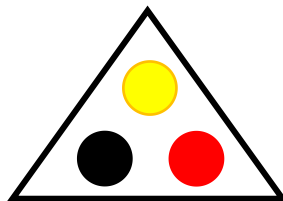

Figure 2-1.1 Ordering of arm connectors
- 3) Plug the male banana connectors of each arm into the according female ports as figure 2-1.1 above.